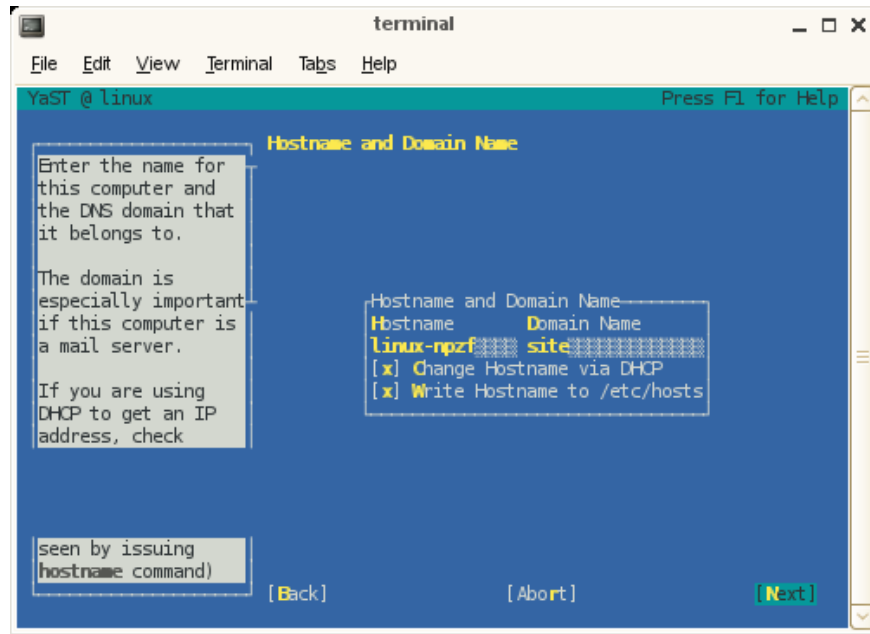

Figure 2-3 > Hostname and Domain Name Configuration Screen
7. From the **Hostname and Name Server Configuration** screen, as shown in Figure 2-3 on page 39, enter the hostname and domain name of your system in the appropriate fields. Make sure that **Change Hostname via DHCP** is unselected (no x should appear in the box). Click on the **Next** button to continue.